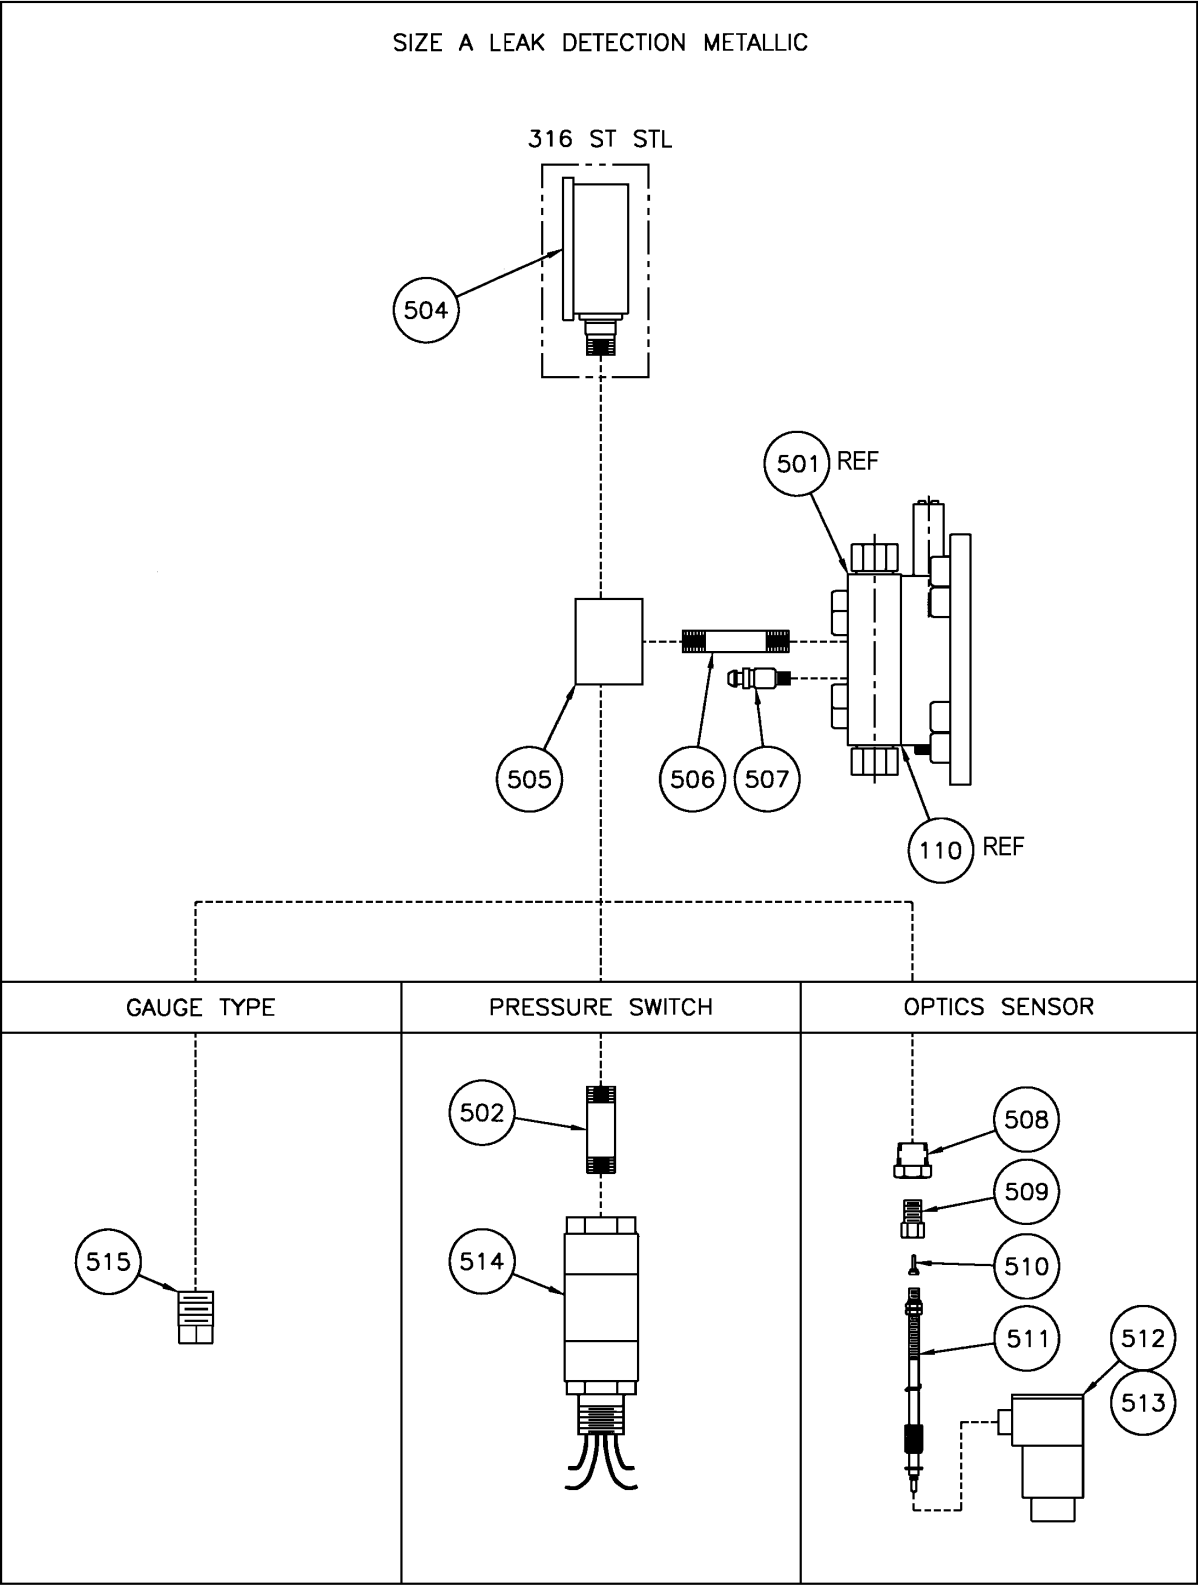

Figure 27. Metallic Leak Detection, Size A.
6.6 METALLIC LEAK DETECTION, SIZE A (316SS, ALLOY 20 & HAST C) (FIGURE 27)